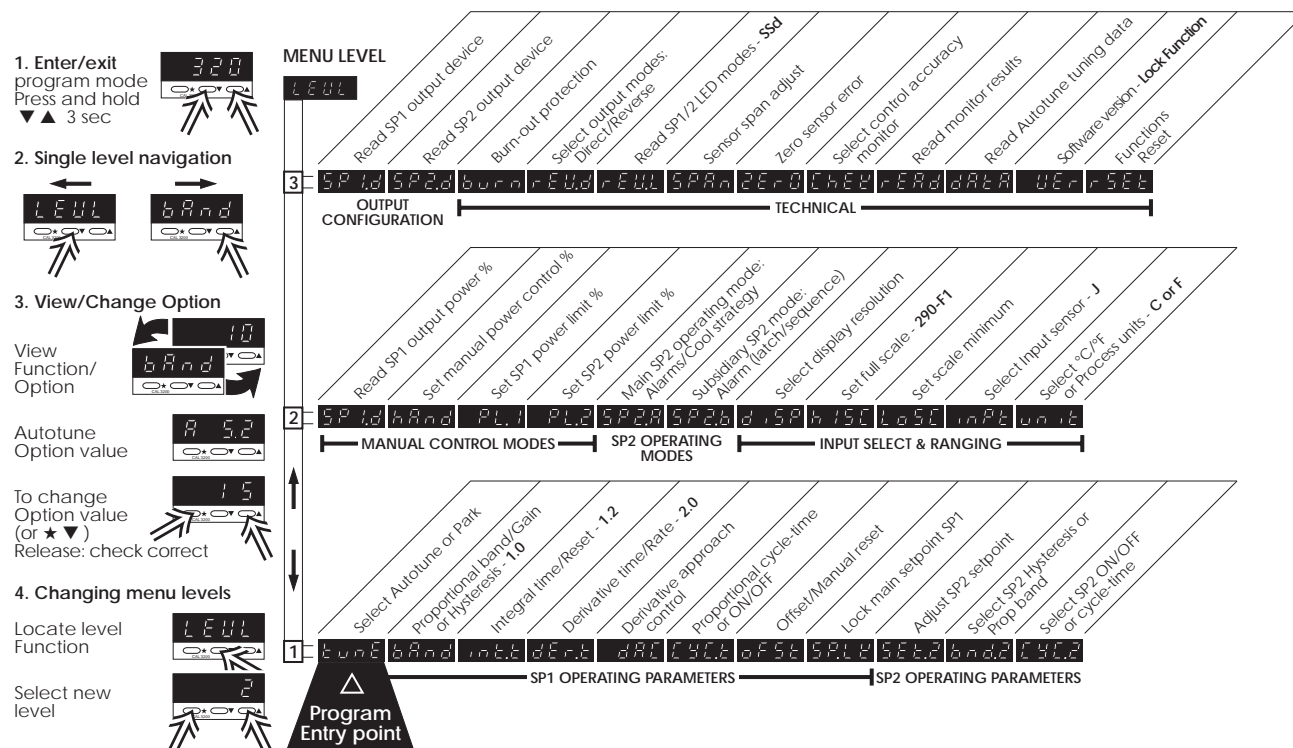

Figure 5-9: Heater Control Menu and Program Mode Guide
3. Move the bracket until the bottom of the top "tooth" aligns with the bottom of the sensor plug as shown in Figure 5.9. There should be a  $\frac{1}{8}$ " gap between the "tooth" and the sensor plug.